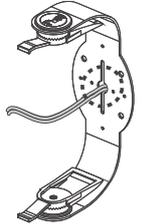

FIGURE 2:
1. In most cases you will be able to attach the FastMount brackets directly to the mounting surface. Run the speaker wires from the amplifier to the speaker locations and through the holes in the brackets (see figure 2).